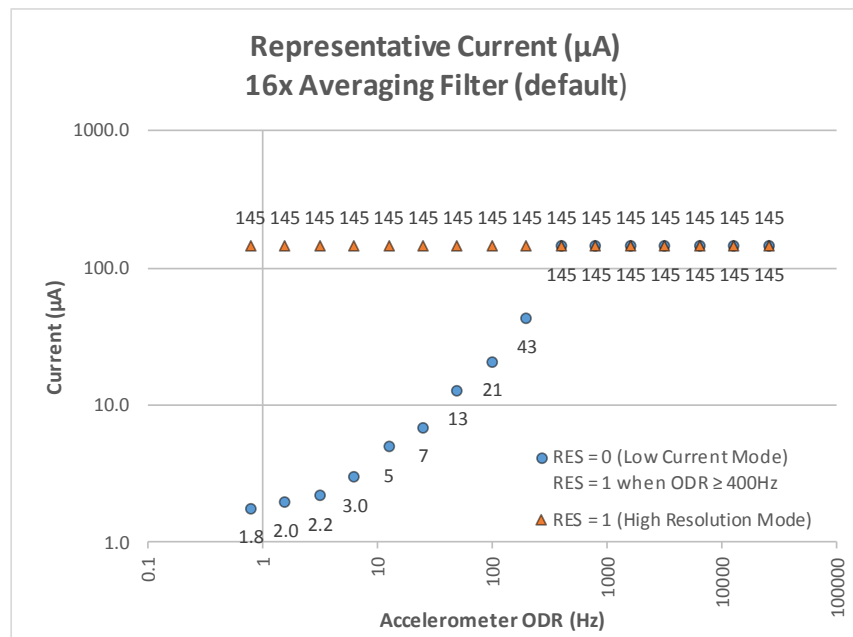

Figure 1: Current as a function of Output Data Rate (ODR) and Power Mode Settings
1. Current varies with Output Data Rate (ODR) as shown in Figure 1, types and number of enabled digital engines, and the Average Filter Control settings that can be tested using Kionix FlexSet™ Performance Optimization Tool found at <http://www.kionix.com/flexset>.